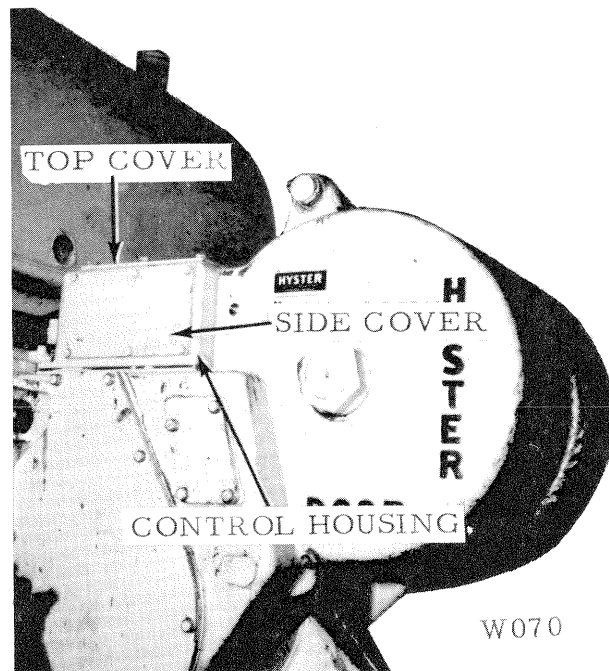

Figure 22
1. Unscrew the capscrews securing the top cover to the housing. Fig. 22. Tap the cover with a soft hammer to loosen it. Then, lift it off. Remove the side cover in the same manner.